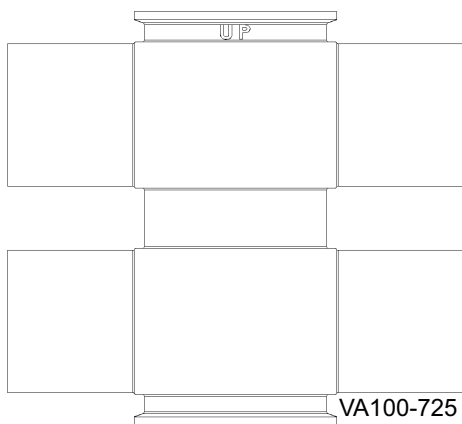

Figure 1 - Valve orientation
**NOTE:** Orient the valve so that the "UP" inscription (near the adapter-to-body connection) is pointed toward the actuator. See Figure 1.